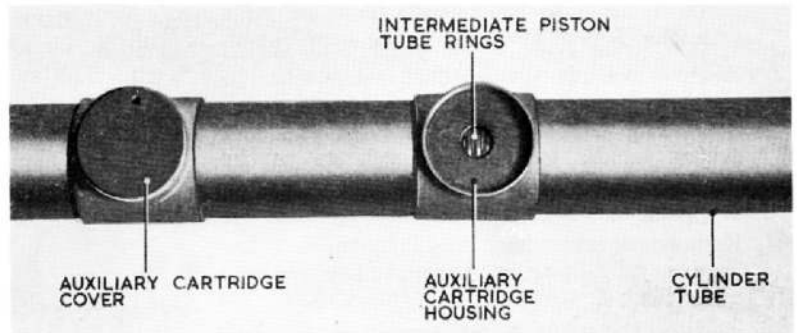

Fig. 10. Examining intermediate piston tube rings
12. (1) Gently extend the intermediate piston tube until the piston rings can be seen through one of the auxiliary cartridge housings (*fig. 10*).